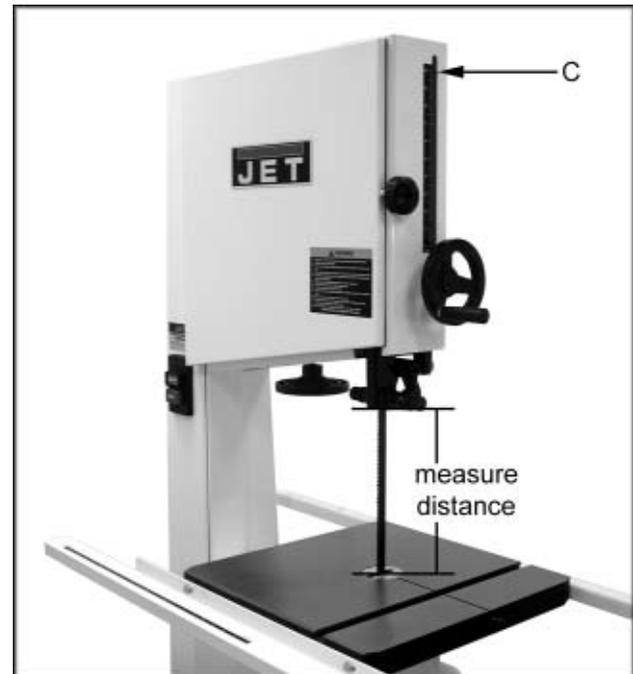

Fig. 14
3. Measure from the table top to the bottom of the blade guides, Figure 14.
4. Set the indicator to this measurement on the height scale. Grasp the end of the indicator (C, Fig. 14) between your finger, and thumb. Move the indicator into position.